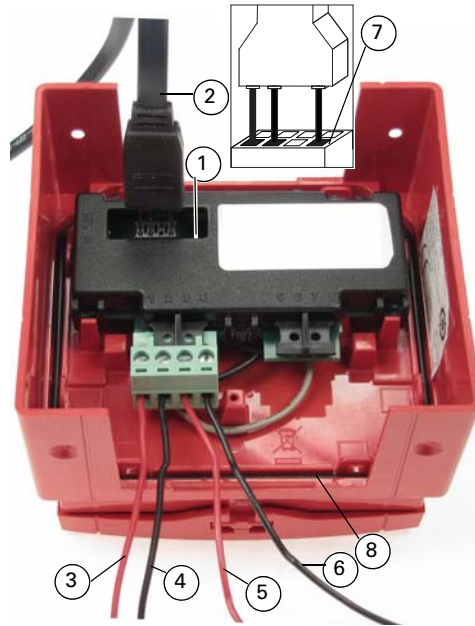

Fig. 2: FC421CP-I Rear View and Wiring Information
The FC421CP-I is programmed with the address prior to installation using an address programming tool. The associated ancillary programming lead plugs into the programming port (see items 1 and 2 in Fig 2). Refer to Fig 2 for proper orientation.
Ensure that the pins of the ancillary programming lead are inserted completely into the lower row of the programming port (see item 7 in Fig 2) for effective communication with the Address programming tool.
- 3 Connection to the FC421CP-I is made via the 4 way terminal connector as shown in Fig. 2, ensuring correct polarity.